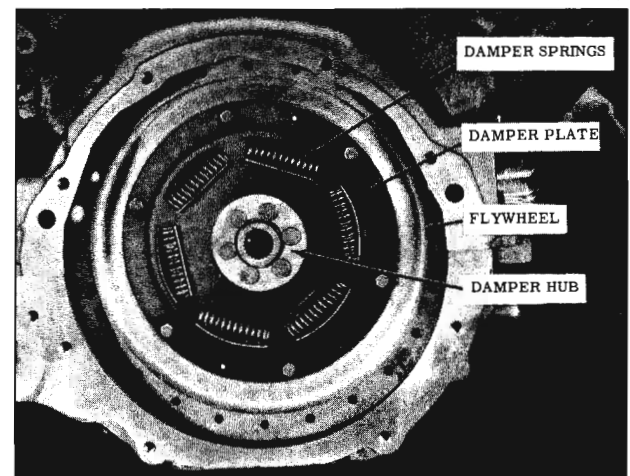

Fig. 8-49 Damper Assembly
2. Remove the six damper plate to flywheel attaching cap screws and remove damper. (Fig. 8-49)